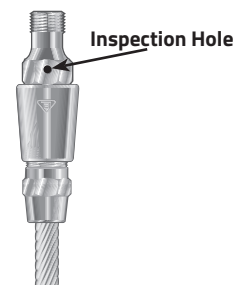

Figure 5
**STEP 6: Inspect for proper assembly.** (Figure 5) Prior to proof-loading, strands visible through the inspection hole are your assurance of a proper assembly. The end of the rope may not be visible in the inspection hole after proof-loading.